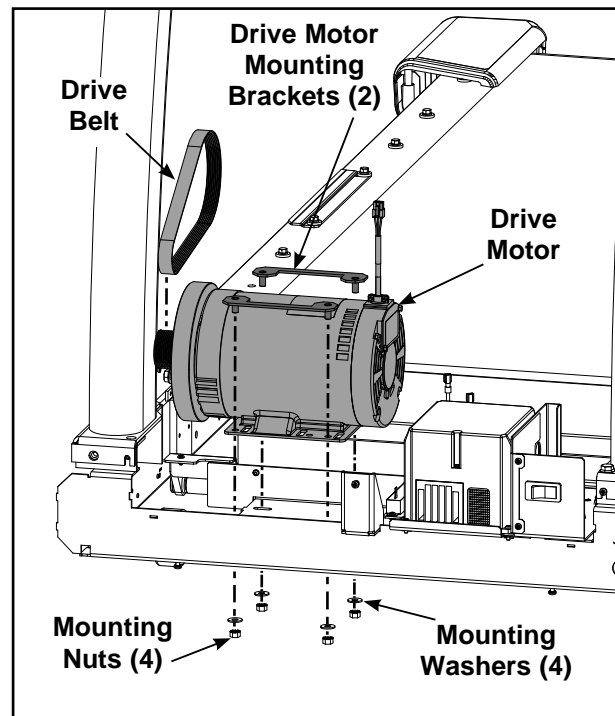

Figure 16
- If you are changing the drive belt, slip the drive belt around the flywheel pulley and off the motor. See Figure 16.
- Using a 1/2" Socket with a 6" extension remove the four mounting nuts and washers from the drive motor mounting brackets. See Figure 16.
- B. Remove the drive motor mounting brackets and lift the drive motor up and out of the treadmill. See Figure 16.
- A. Place the drive motor in the correct position in the treadmill. See Figure 16.
- B. Install the drive motor mounting brackets. See Figure 16.
- C. Using a 1/2" Socket with a 6" extension install the four mounting nuts and washers to the drive motor mounting brackets. See Figure 16.